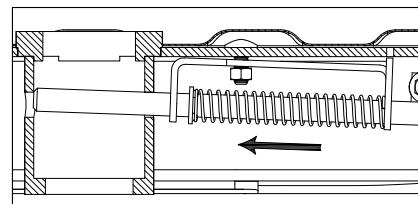
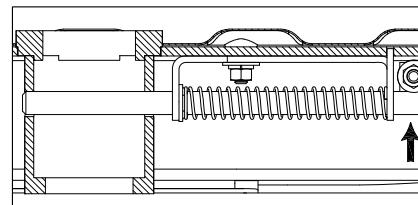

FIGURE E5: Cut-away of center section
FIGURE E6: Cut-away of center section
- Attach the latch to the center.** Compress the spring slightly by pushing the frame of the latch toward the socket and insert the tabs of the latch into the slots of the center section as shown in figure E5. Remove the  $\frac{3}{8}$  finish nut. Install a  $\frac{3}{8}$  flat washer, lock washer and finish nut. Tighten the hardware, securing the latch to the center section as shown in figure E6.